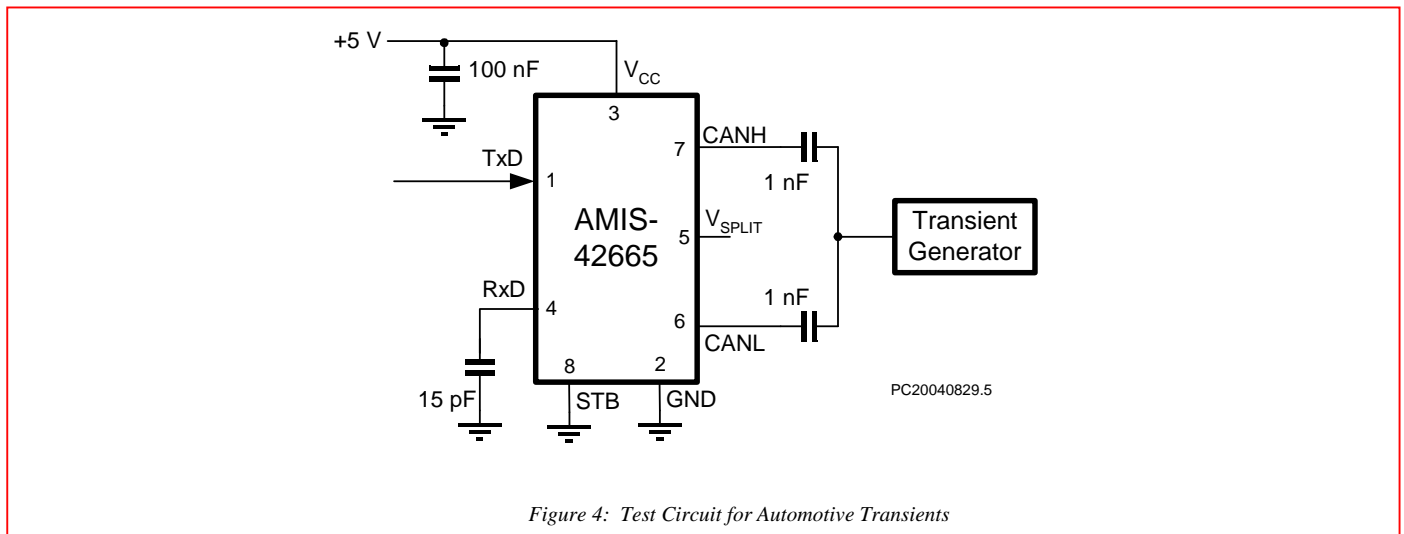

Figure 4: Test Circuit for Automotive Transients
- 1) Applied transient waveforms in accordance with ISO 7637 part 3, test pulses 1, 2, 3a, and 3b (see Figure 4).